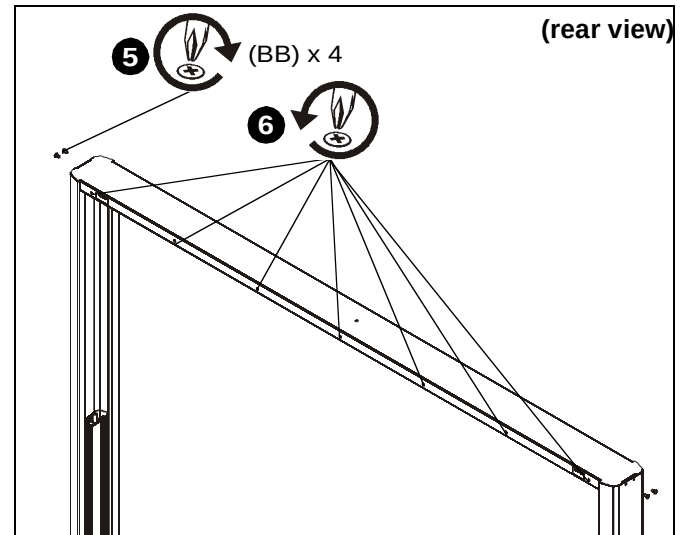

Figure 9
4. Use four #10-24 x 3/8" Phillips machine pan screws (BB) to secure outer top frame (F) to column extenders (J and K). (See Figure 9)
5. Turn seven screws pre-installed on inner top frame (E) counter-clockwise until screen is tightly secured. (See Figure 9)